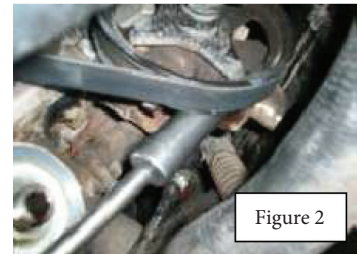

Figure 2
7. Remove the old pressure fitting with a deep socket (Figure 2).